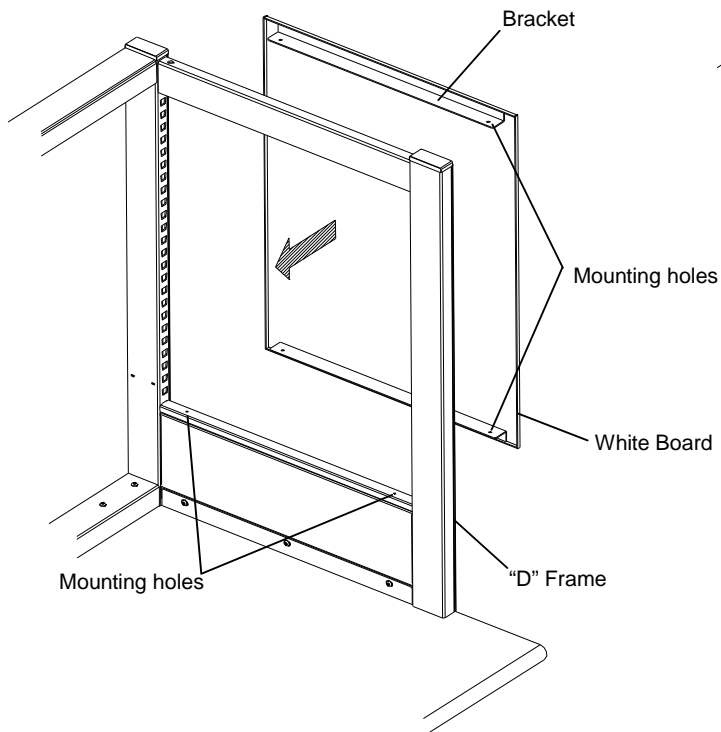

Figure 2.
2. Attach the White Board by aligning the four holes in the Brackets with the four holes on the inside of the "D" Frame. Secure the White Board to the frame using the #10-24 phillips head screws (provided). See figures 2 and 3.